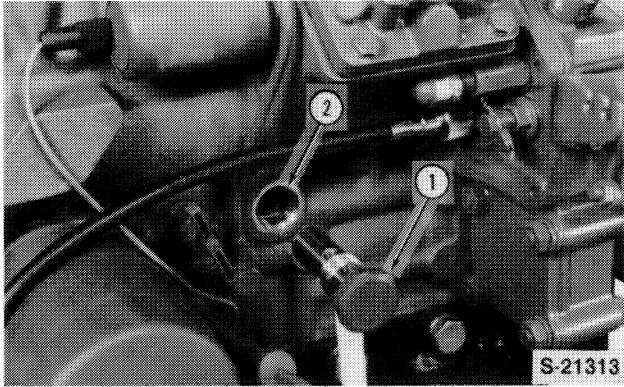

Figure 3
Oil seepage through the clearance between the rocker arms and the shaft overflows into the valve cover area and lubricates the valve stems, push rods and tappets. The relief valve (1), Figure 3, is mounted in the side of the engine block and intersects the main oil gallery. When the oil pressure exceeds the rated pressure, oil is by-passed through the relief valve directly to sump through a passage in the engine block.